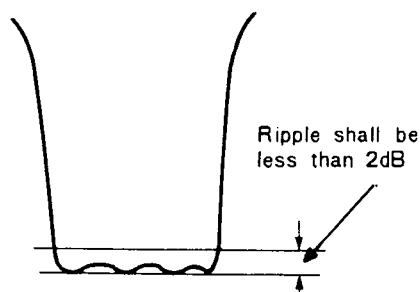

Fig. 8
- 5) At this stage, slower the sweeping speed up to about 0.5 sec/cm and obtain such wave-form as shown in Fig. 8 by adjusting T1 and T2, while plotting the wave-form of crystal filter on the oscilloscope.